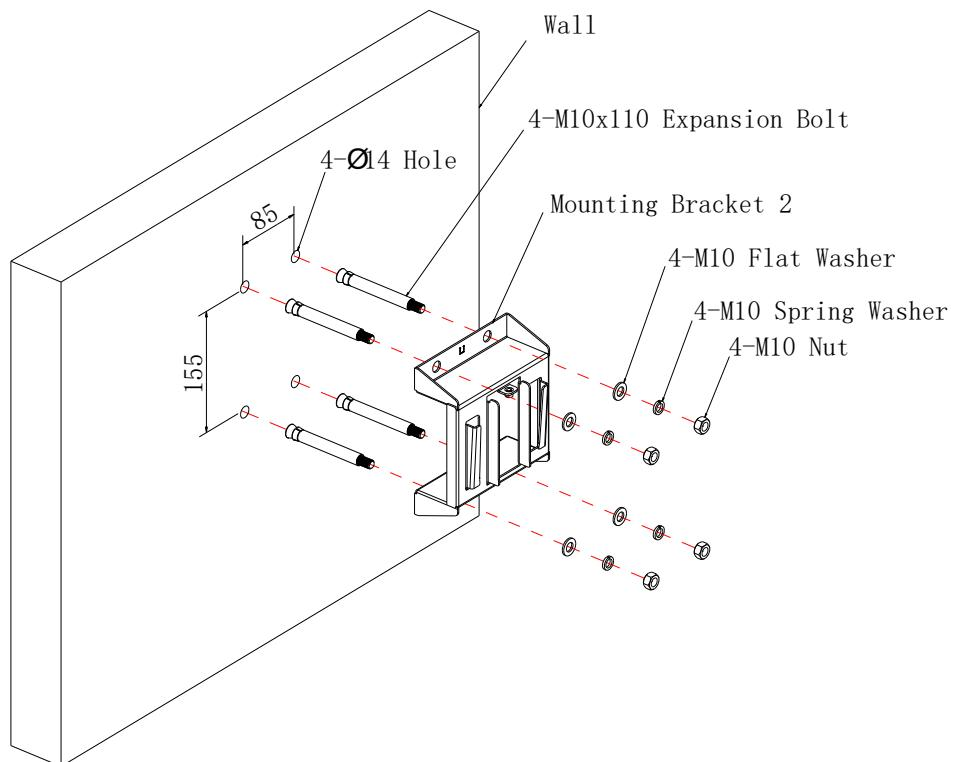

Figure 2.5.6 Mounting Bracket 2 Installation Diagram
Step 3: use hammer push 4 M10×110 expansion bolt into the hole on the wall, fix the mounting bracket 2(RRH-3522-5832) to the wall according the Figure 2.5.6.